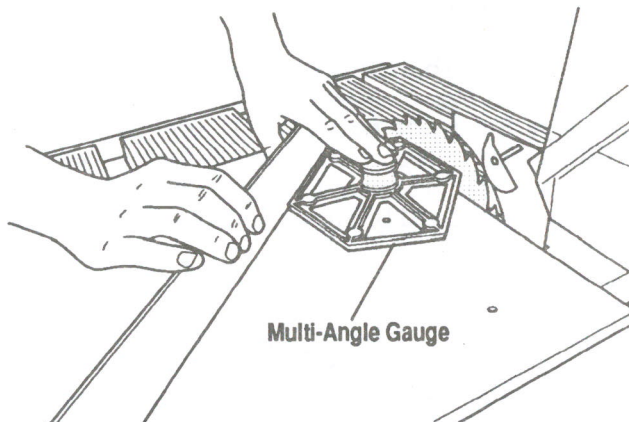

Fig. 11
5. Place the multi-angle gauge against both the fence and the side of the saw blade. See Fig. 11.